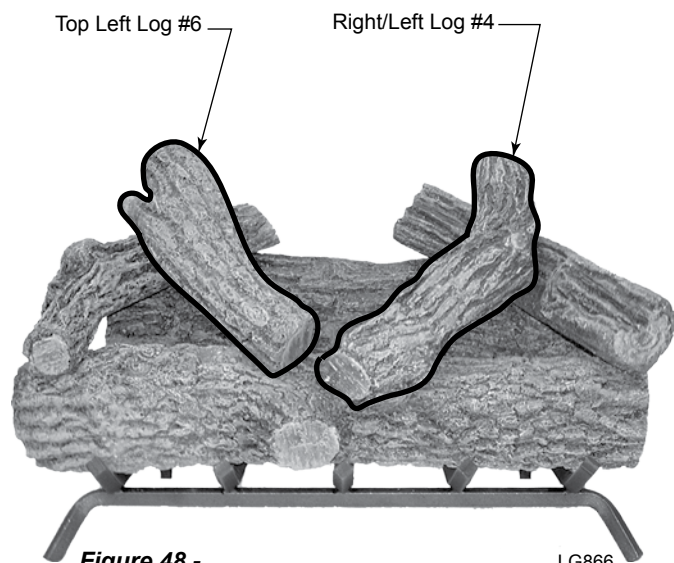

Figure 48 - Place Right/Left and Top Left Log
5. Rest Right/Left Log #4 on Log #3 and Log #1. *Figure 48*
6. Rest Top Left Log #6 on Log #4 and Log #1. *Figure 48*